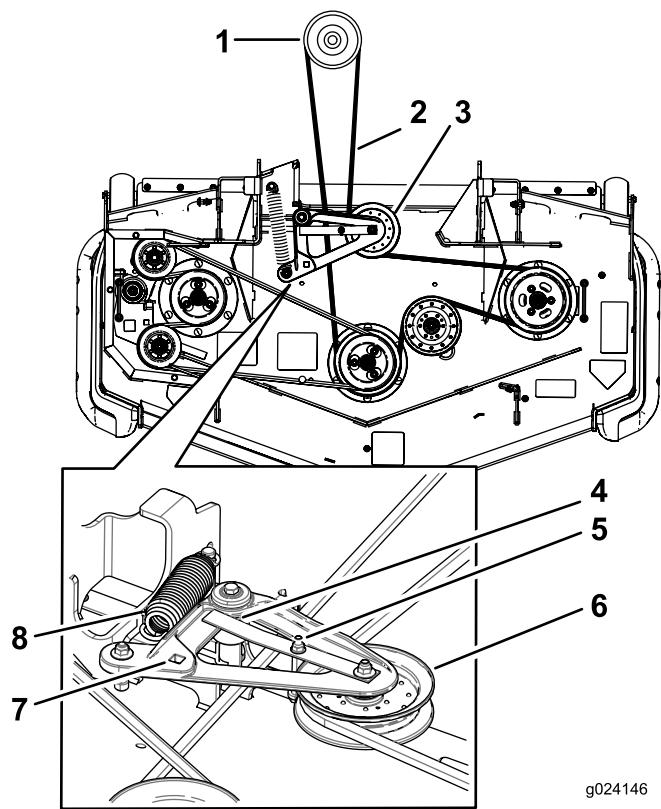

Figure 71
10. Using the ratchet in the square hole, install the new belt around the mower pulleys and the idler pulleys (Figure 71).
6. Use a ratchet in the square hole in the idler arm to remove tension on the idler spring (Figure 71).
8. Lift up on the belt-guide tab and remove the existing belt (Figure 71).
9. Install the new belt around the mower pulleys and the clutch pulley under the engine (Figure 71).
- 10. Rotate and ensure the belt-guide tab hits against the pivot hub Figure 71.
- 11. Using the ratchet in the square hole, install the idler spring (Figure 71).